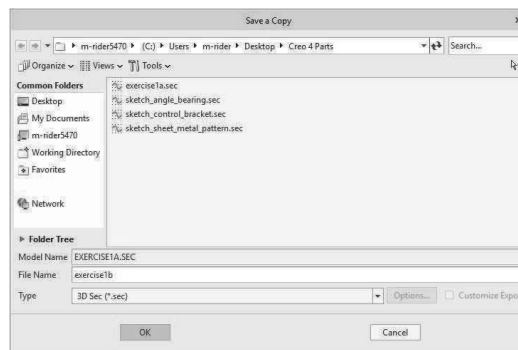

Figure 3-59 Save As “exercise1b (\*.sec)”
**Step 23:** In the New Name area, type “exercise1b”, then *pick* **OK**. Do not change the model name. See Figure 3-59.